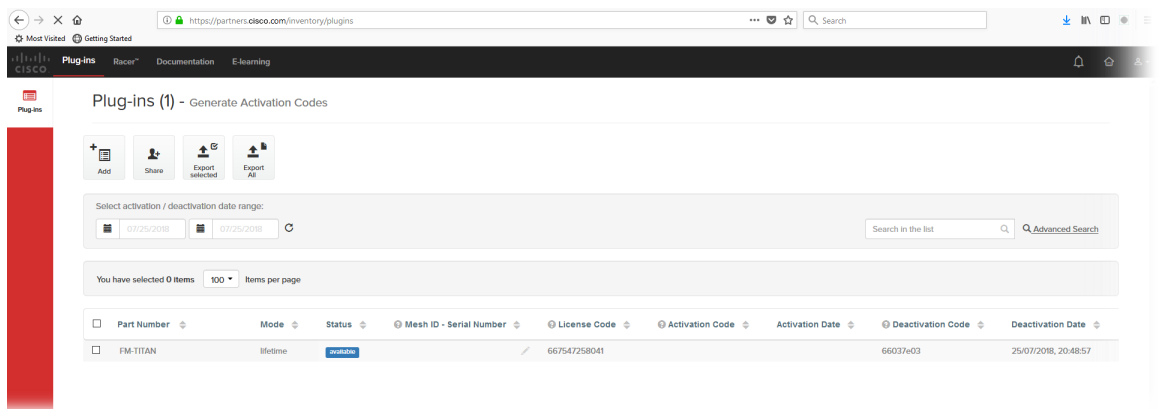

Figure 70. Partner Portal (Plug-ins web page)
- The Plug-ins web page will be shown (Figure 70 \(page 149\)).